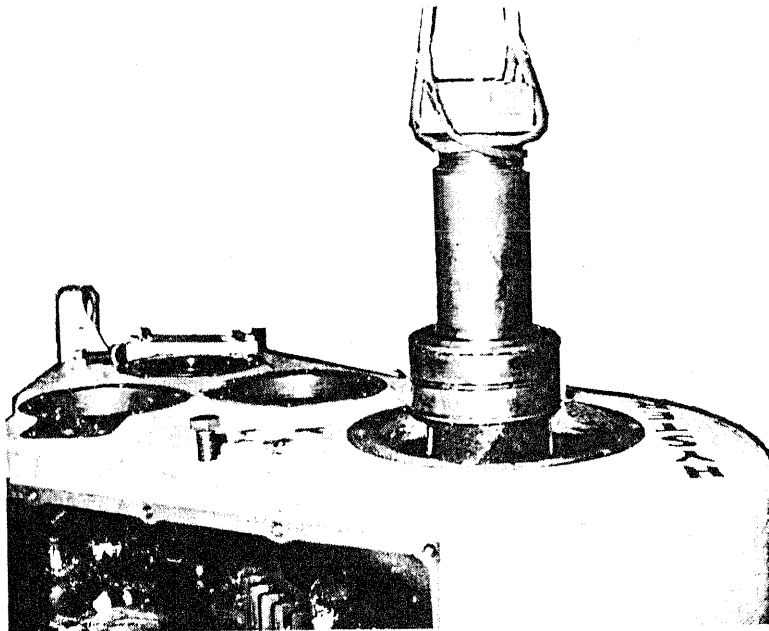

Figure 18.
6. Pull shaft straight up as shown in Figure 18.